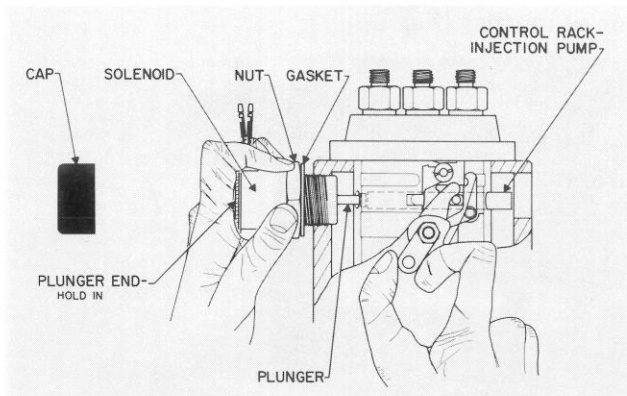

Figure 52
4. Remove gasket and nut from old solenoid and install on new solenoid (Fig. 52). Thread nut fully onto solenoid.
5. Remove cap from solenoid, start to thread solenoid into engine (Fig. 52).
6. Push plunger on solenoid fully in and hold (Fig. 52).
7. Rotate emergency engine stop lever to STOP position (Fig. 52).
8. Continue to hold solenoid plunger in and thread solenoid into engine until inner end of plunger contacts control rack of injector pump (Fig. 52). Contact will be indicated when outside end of plunger is pushed away from solenoid body.
10. Hold solenoid body to prevent it from turning and tighten nut against engine to secure adjustment (Fig. 52). DO NOT overtighten nut or solenoid may become distorted causing it to malfunction.